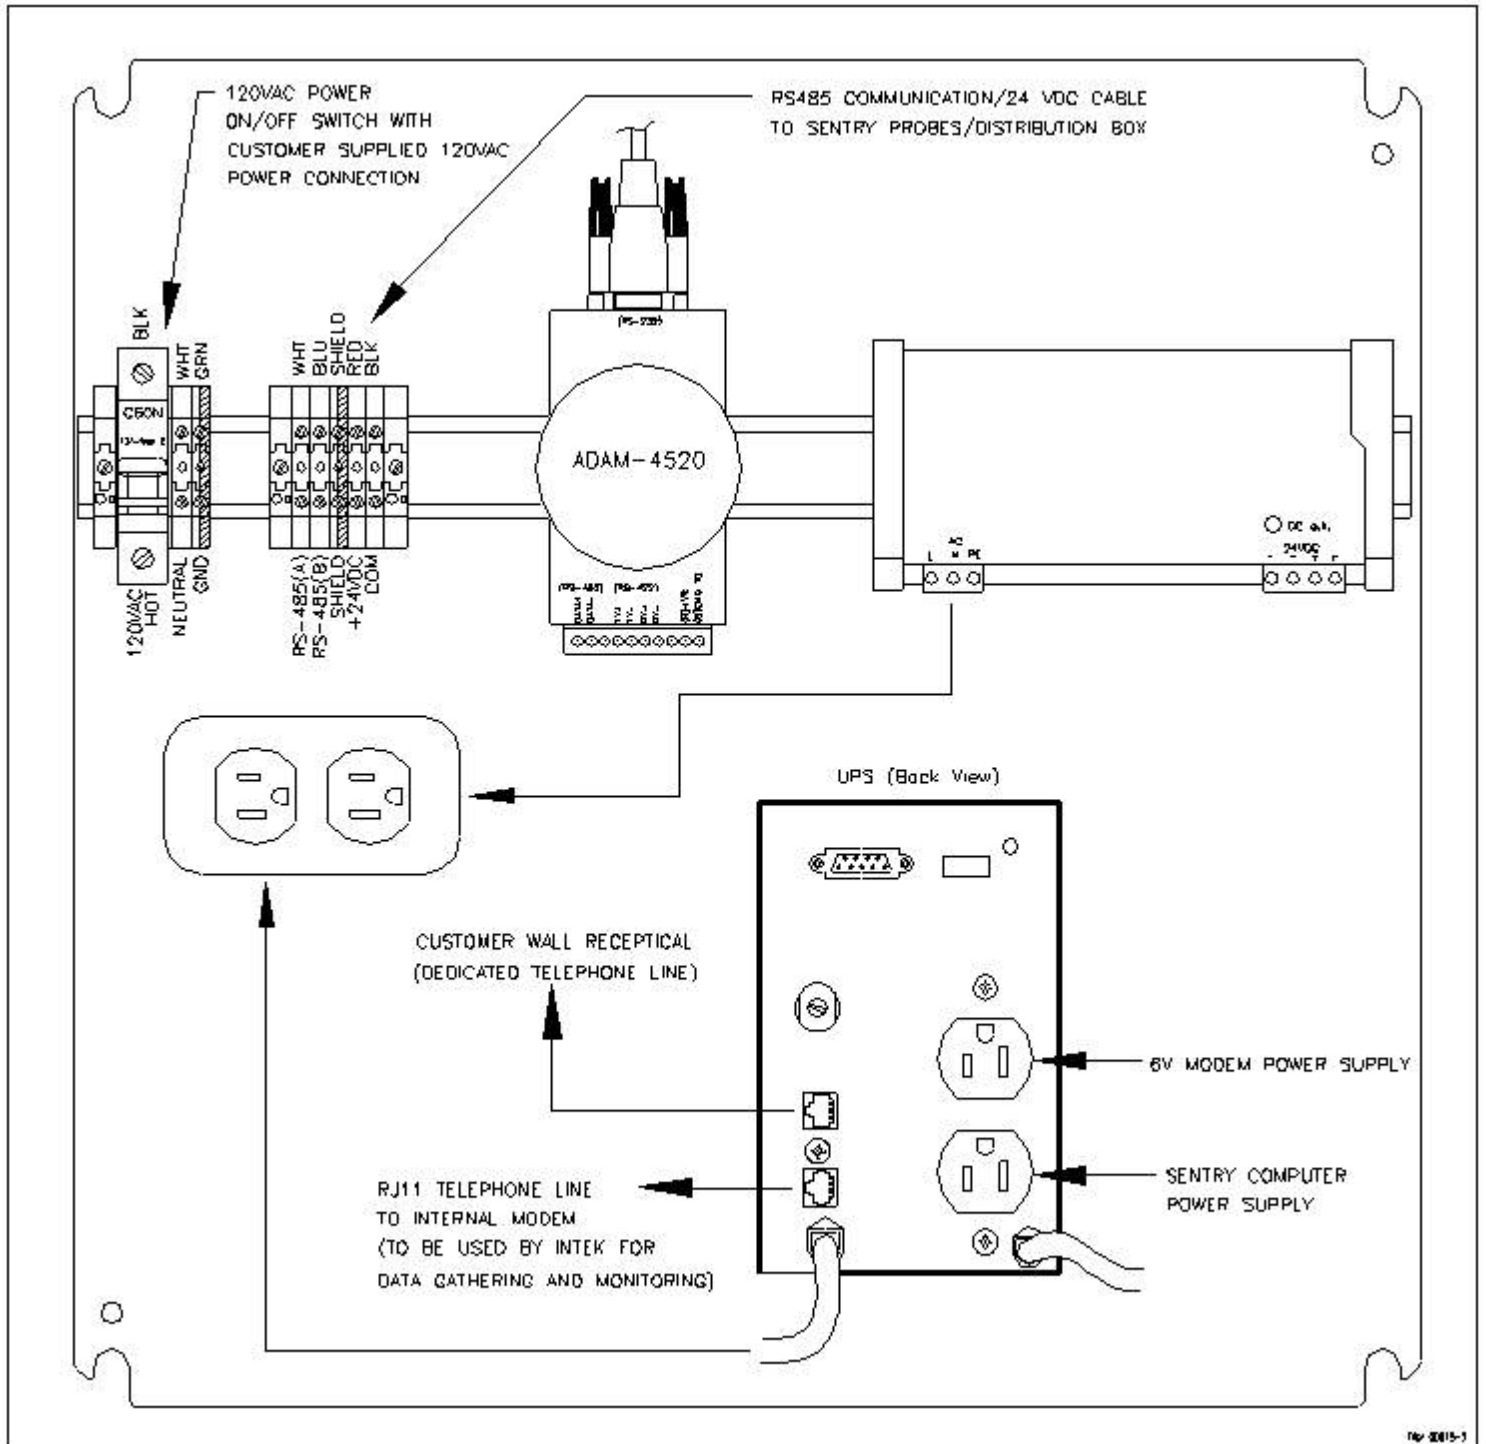

Figure 6 CPU Wiring - Part 1
B. Electronics Unit (CPU) (See Figure 6)
- b. Leave the UPS power off. Apply power only to the 24Vdc power supply inside of the CPU (See Figure 6).